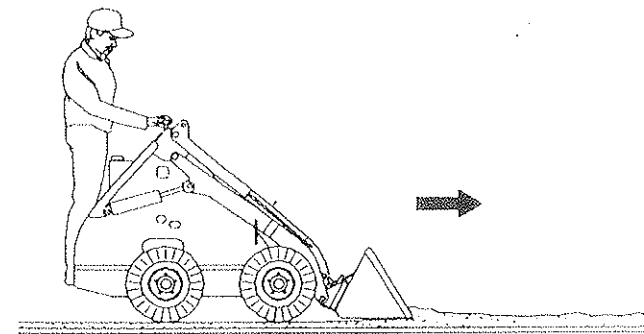

FIGURE 15
2. Drive machine forward slowly and continue to tilt bucket forward until it enters the ground to desired depth and then tilt it back a small amount to keep an even depth, as shown in **Figure 15**.